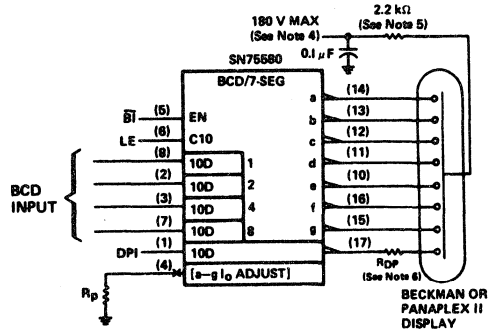

FIGURE 4—SINGLE-DIGIT 7-SEGMENT DISPLAY
3. In all applications, peak transient segment current must be limited to 50 mA ($t_w < 10 \mu s$, duty cycle $< 1\%$). This may be accomplished in d-c applications by connecting a 2.2 k Ω resistor from the anode-supply filter capacitor to the display anode, or by current limiting the anode driver in multiplex applications (See Figure 4).